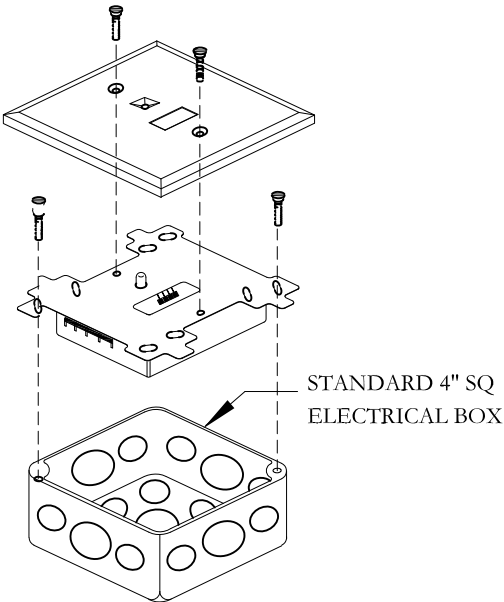

FIGURE 3 FRCMA/-AI
- 2) Secure the module to a U.L. listed electrical box (supplied by installer) as shown in Fig. 3